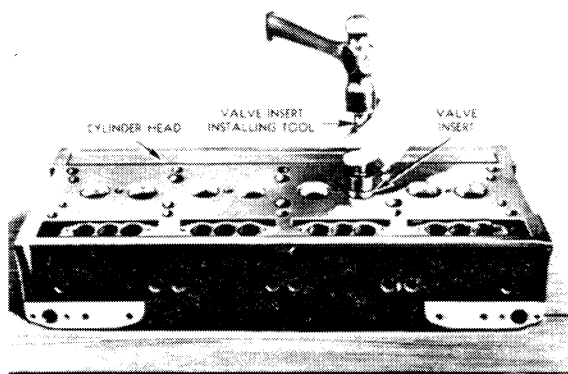

FIG. 17
10. Using special locating and driving tool, shown in Fig. 17, insert pilot end of driver into valve guide and drive insert down tight into counterbore.